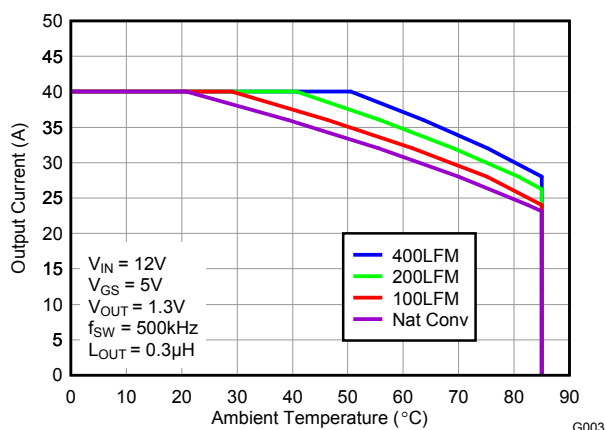
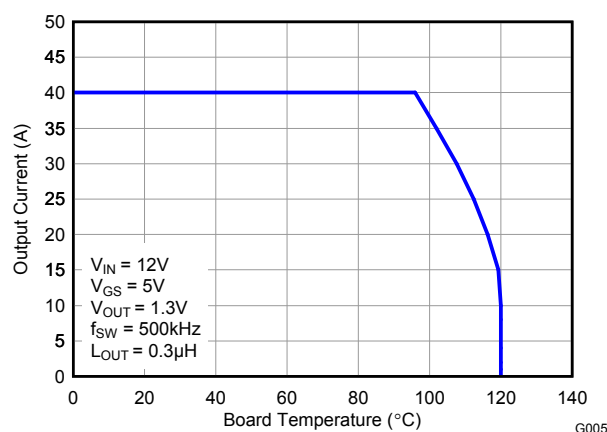

Figure 3. Safe Operating Area – PCB Vertical Mount⁽¹⁾
Figure 5. Typical Safe Operating Area⁽¹⁾
The SOA curves in the CSD86350Q5D data sheet provides guidance on the temperature boundaries within an operating system by incorporating the thermal resistance and system power loss. Figure 3 to Figure 5 outline the temperature and airflow conditions required for a given load current. The area under the curve dictates the safe operating area. All the curves are based on measurements made on a PCB design with dimensions of 4" (W) x 3.5" (L) x 0.062" (T) and 6 copper layers of 1 oz. copper thickness.